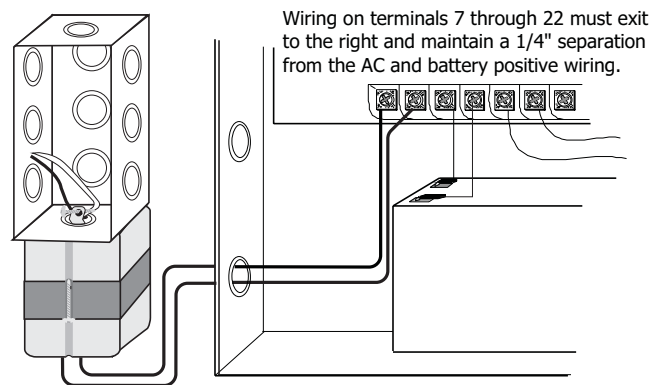

Figure 6: Transformer Installation
2. Attach a single-gang box adjacent to the XR5 enclosure as shown in Figure 6.
3. After the single-gang box is secured, attach the transformer to the junction box, using the bottom box's bottom knockout. The screw on the transformer should extend into the single-gang box. Refer to Figure 6.
6. Connect the wires from the bottom (the side opposite the attaching screw) two terminals on the transformer to terminals 1 and 2 on the panel. Use no more than 70 ft. of 16-gauge wire or 40 ft. of 18-gauge wire between the transformer and the XR5FC or XR5SL panel. Refer to Figure 6.